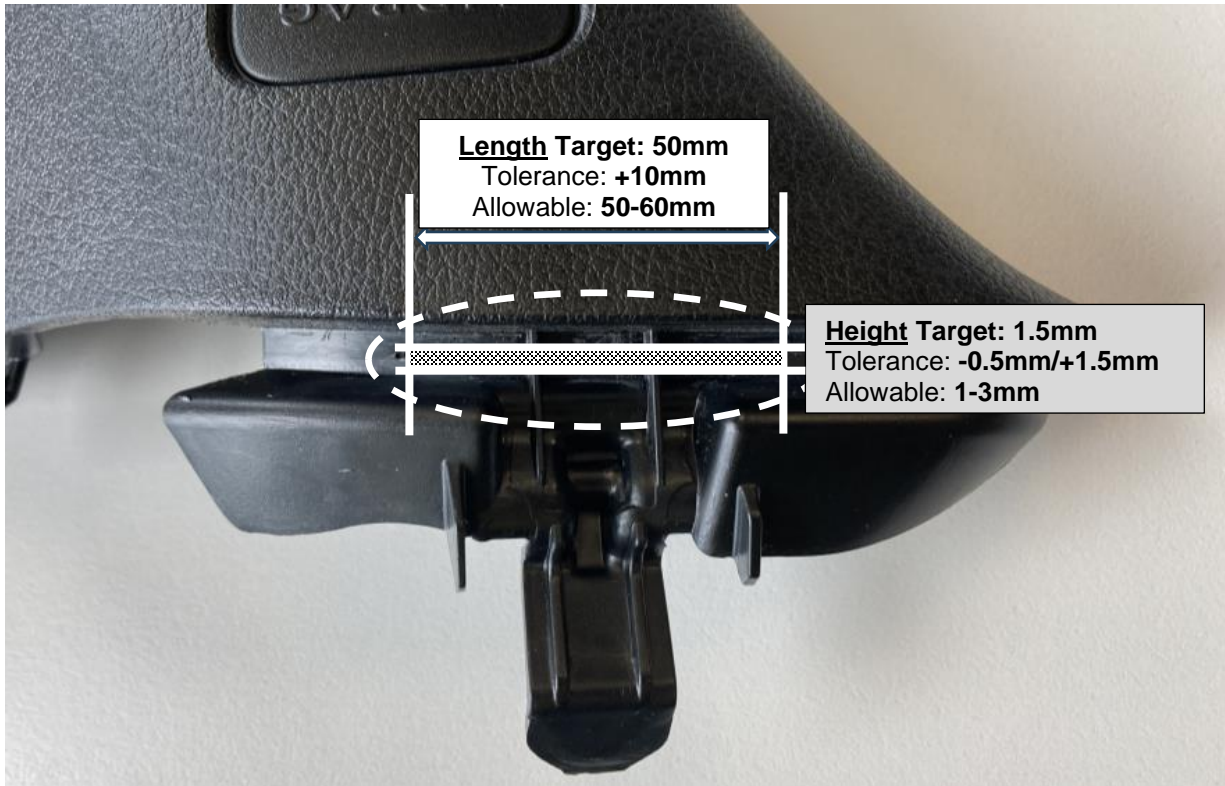

Figure 13 (Right C-pillar trim)
6. Check that the finished cut complies with the specified dimensions (**Figure 13**).